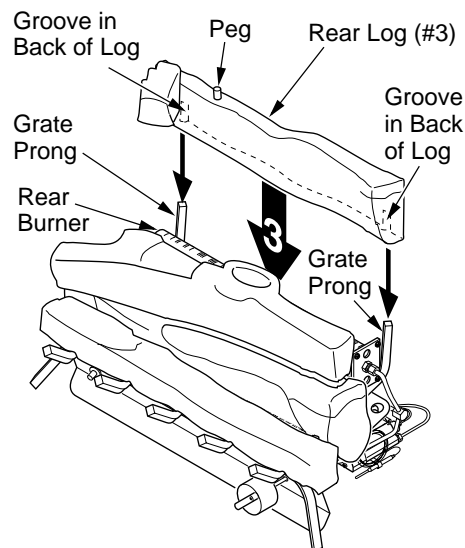

Figure 23 - Installing Rear Log (#3) [18" Variable Manually-Controlled Set Shown]
3. Slide the grooves in the back of the rear log (#3) against the rear grate prongs. Make sure the peg on the log is on top (see Figure 23, page 15).